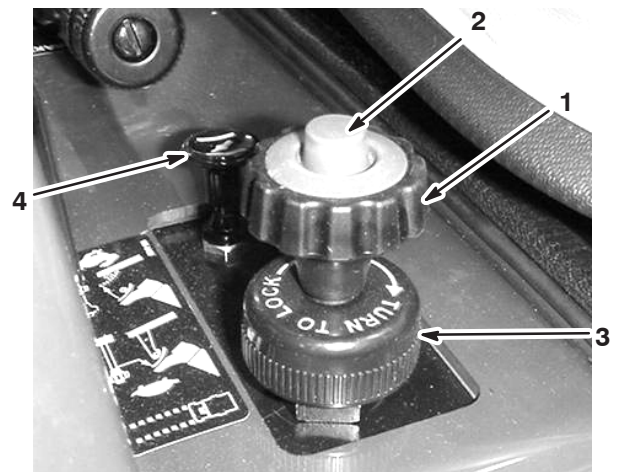

Figure 14
The speed limiter is a large knob located to the right of the seat (Fig. 14). It allows you to set the maximum downward travel of the accelerator pedal, thereby limiting the maximum speed of the sprayer.
2. Press the button on top of the speed limiter knob and pull up on it until you feel it touch the accelerator pedal, then release the button (Fig. 14).
4. Once you have it set, you can lock it at that setting by turning the locking ring at the base of the speed limiter clockwise until it stops (Fig. 14). To release this lock, turn the locking ring counter clockwise until it is loose.
The choke control is a small knob to the right of the seat (Fig. 14). To start a cold engine, pull the choke control up. After the engine starts, regulate the choke to keep the engine running smoothly. As soon as possible, push the control down to the Off position. A warm engine requires little or no choking.